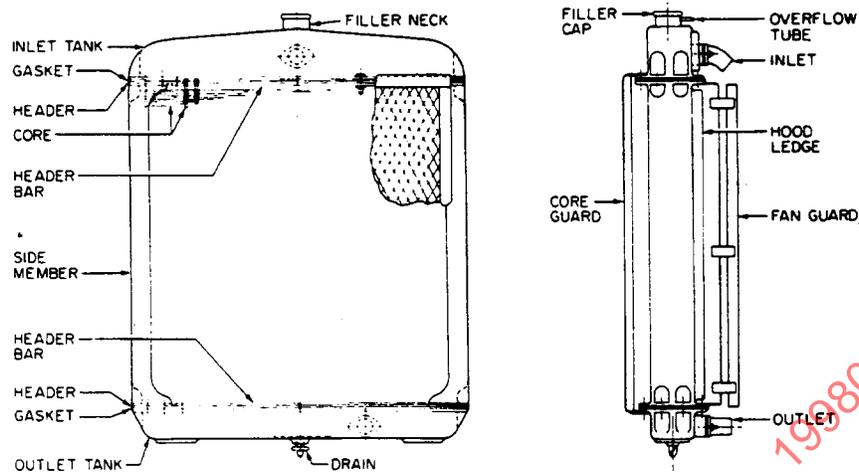

FIGURE 3—CAST TYPE (ONE-PIECE CORE) RADIATOR
- 3.8 **Cast Radiator**—A radiator having inlet and outlet tanks of cast metal, usually aluminum, sometimes cast iron. See Figure 3.